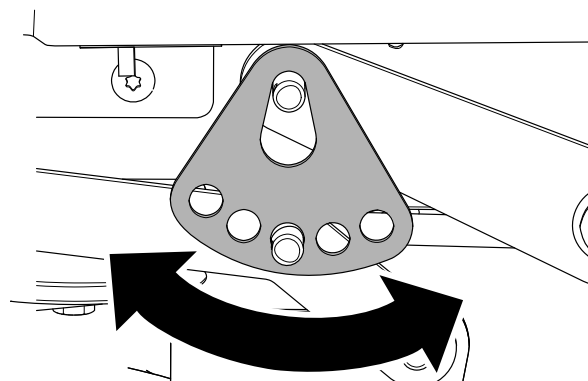

Figure 72
7. Rotate the height-of-cut plate to a different hole so that it supports the weight of the mower deck after you install the plate (Figure 72).
8. Install the washer and hairpin cotter (Figure 72).